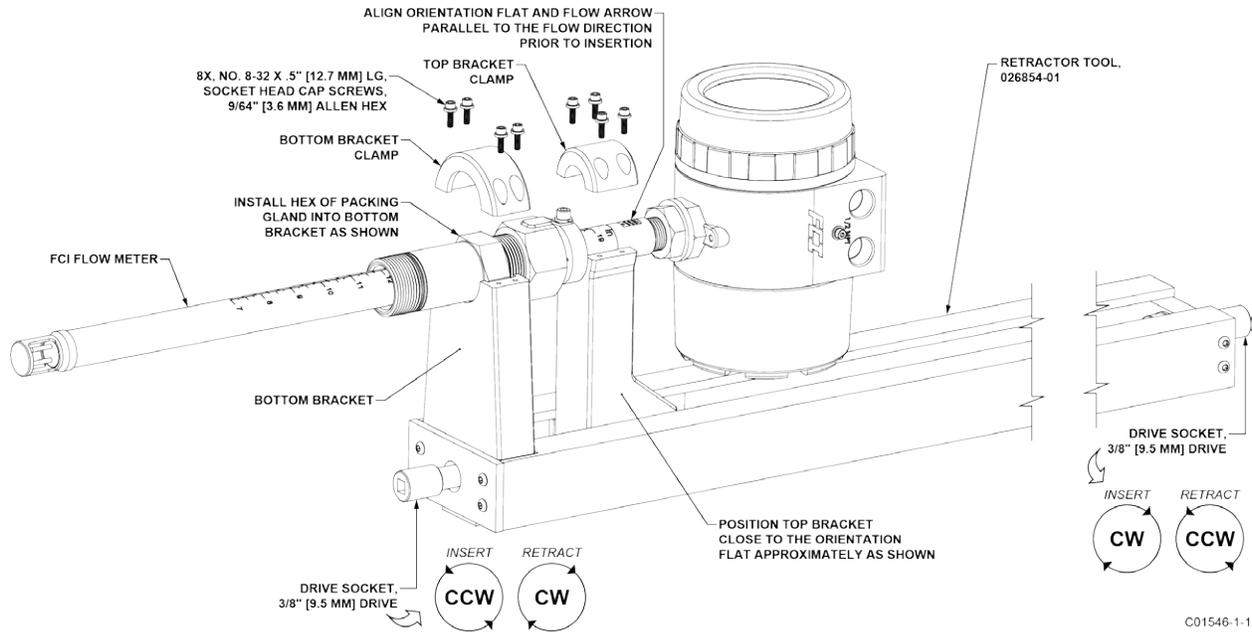

Figure 6 – Flow Element Installation Using FCI Retractor Tool 026854-01
- a. Place the flow element into the top and bottom brackets of the FCI retractor tool as shown in Figure 6.
- b. Align the orientation flat and flow arrow parallel to the flow direction. Position the top bracket close to the orientation flat as shown in Figure 6.
- c. Secure the top and bottom bracket clamps to the flow element using the eight no. 8-32 screws provided as shown in Figure 6. Torque these screws to 20 in-lbs [2 N-m] minimum.
- d. The retractor tool has, on both ends, a 3/8" drive socket that engages the retractor to move the flow element in or out. Once the flow element has been properly secured, open the ball valve and insert the flow element by using either a hand wrench or a drill to rotate either drive socket in the appropriate direction for **insertion** as shown in Figure 6. Observe the **Warning** below if using an electric drill. Insert the flow element up to the insertion depth mark and tighten the packing nut another ½ to 1 turn tight (approximately 65 to 85 ft-lbs [88-115 N-m]) until the packing has created a full seal.
- d. The retractor tool has, on both ends, a 3/8" drive socket that engages the retractor to move the flow element in or out. Use a hand wrench or a drill to rotate either drive socket in the appropriate direction for **retraction** as shown in Figure 6. Observe the **Warning** below if using an electric drill. Retract the flow element until the sensor head has been fully retracted into the cavity of the packing gland.